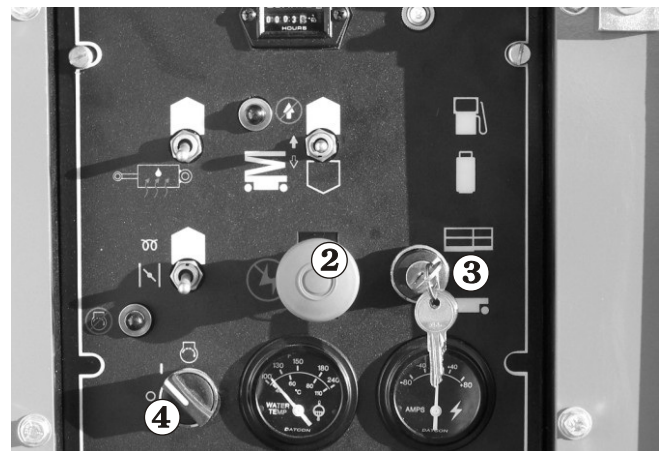

Figure 8.16
2. Set the **Emergency Stop** switch 2 to on (up) (see Figure 8.16).
3. Set the **Ground/Platform Selector** switch 3 to platform (up) (see Figure 8.16).
4. Turn the key 4 (see Figure 8.16) to on do not turn the key 4 to start.